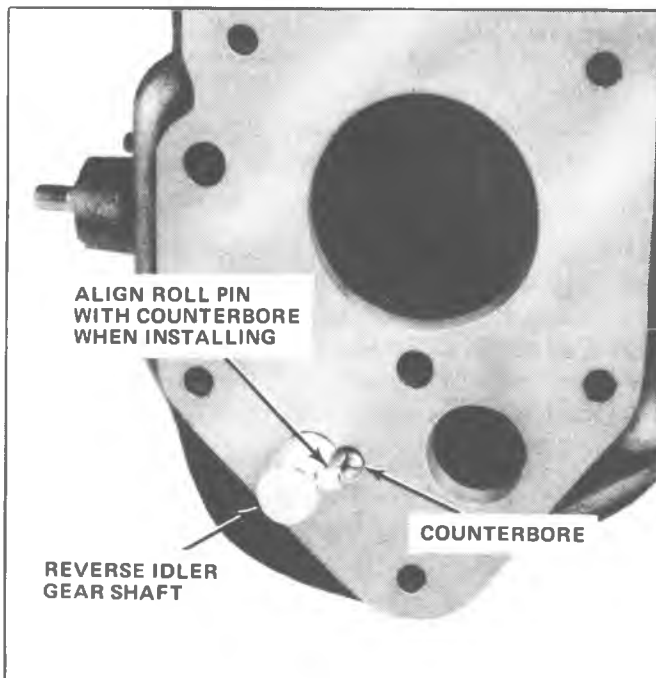

Fig. 7B-12B--Removing Reverse Idler Gear Shaft
23. Remove reverse idler gear and thrust washers by tapping shaft with hammer until end of idler gear shaft (end with roll pin) clears counterbore in rear of case and remove shaft (Fig. 7B-12B).